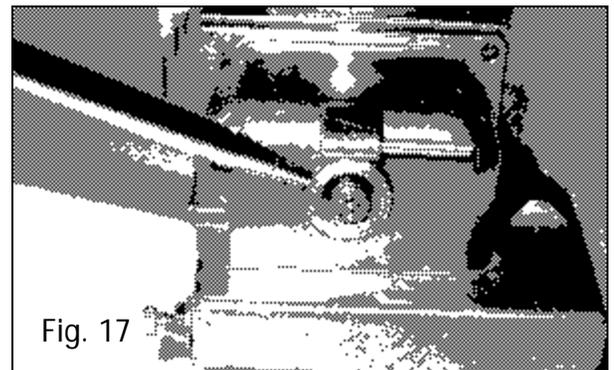

Fig. 17
- Using a stubby flat-blade screwdriver remove main jet from pick up tube. See Fig. 17.